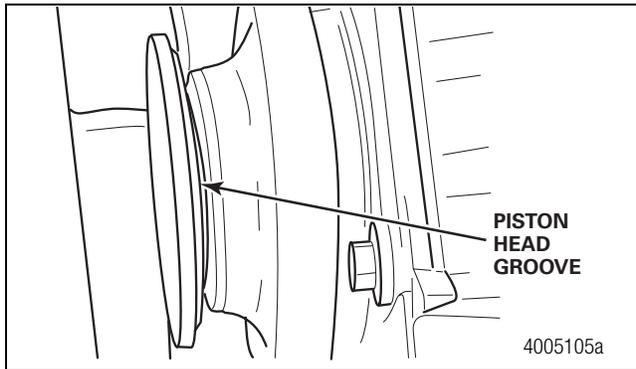

Figure 5.10
9. Carefully install the piston boot into the piston head groove. Verify that the boot is correctly seated in the piston head groove. Figure 5.10.